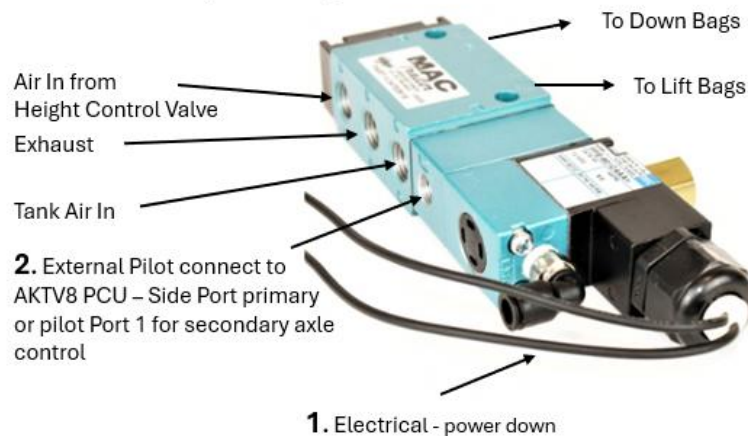
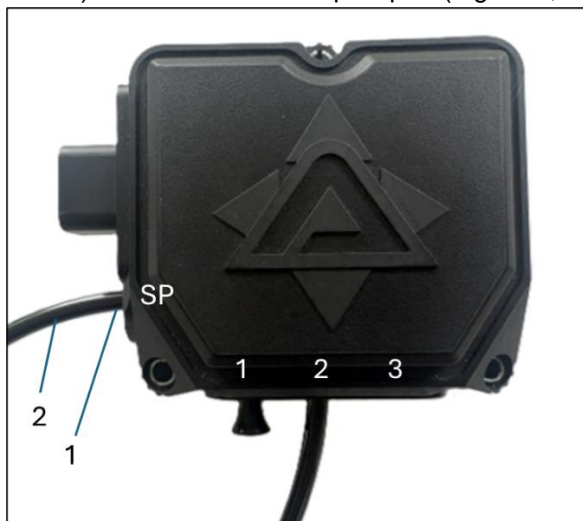

Figure 5
Figure 7
14. Route MiLift wire harness (single lead) to lift axle control valve on the vehicle (Figure 5).
20. Disconnect air tube from the lower MAC valve pilot port. (Figure 5, Item 2), tank air.
22. Route new air tube outlet from MiLift PCU side port (SP) by electrical connector (Figure 7, Item 1) to MAC valve lower pilot port (Figure 5, Item 2).
23. Connect air tube (Figure 7, Item 2) to MiLift PCU port SP (Figure 7, Item 1, and secure with wire ties as needed.